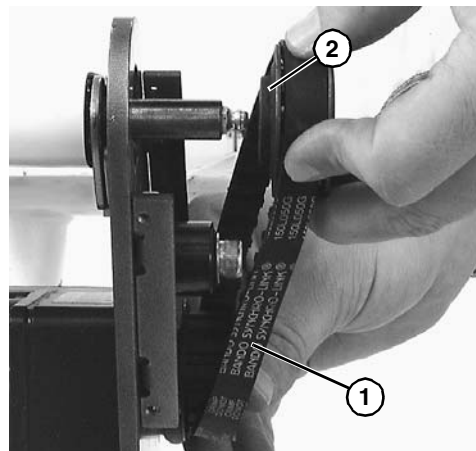

Figure 20
3. Remove timing belt (Figure 20, item 1).
If timing belt does not slide over pulley flange, loosen driven pulley set screws (**Figure 20, item 2**) and remove pulley with belt. For re-installation, see steps 6 through 9 on page 9.